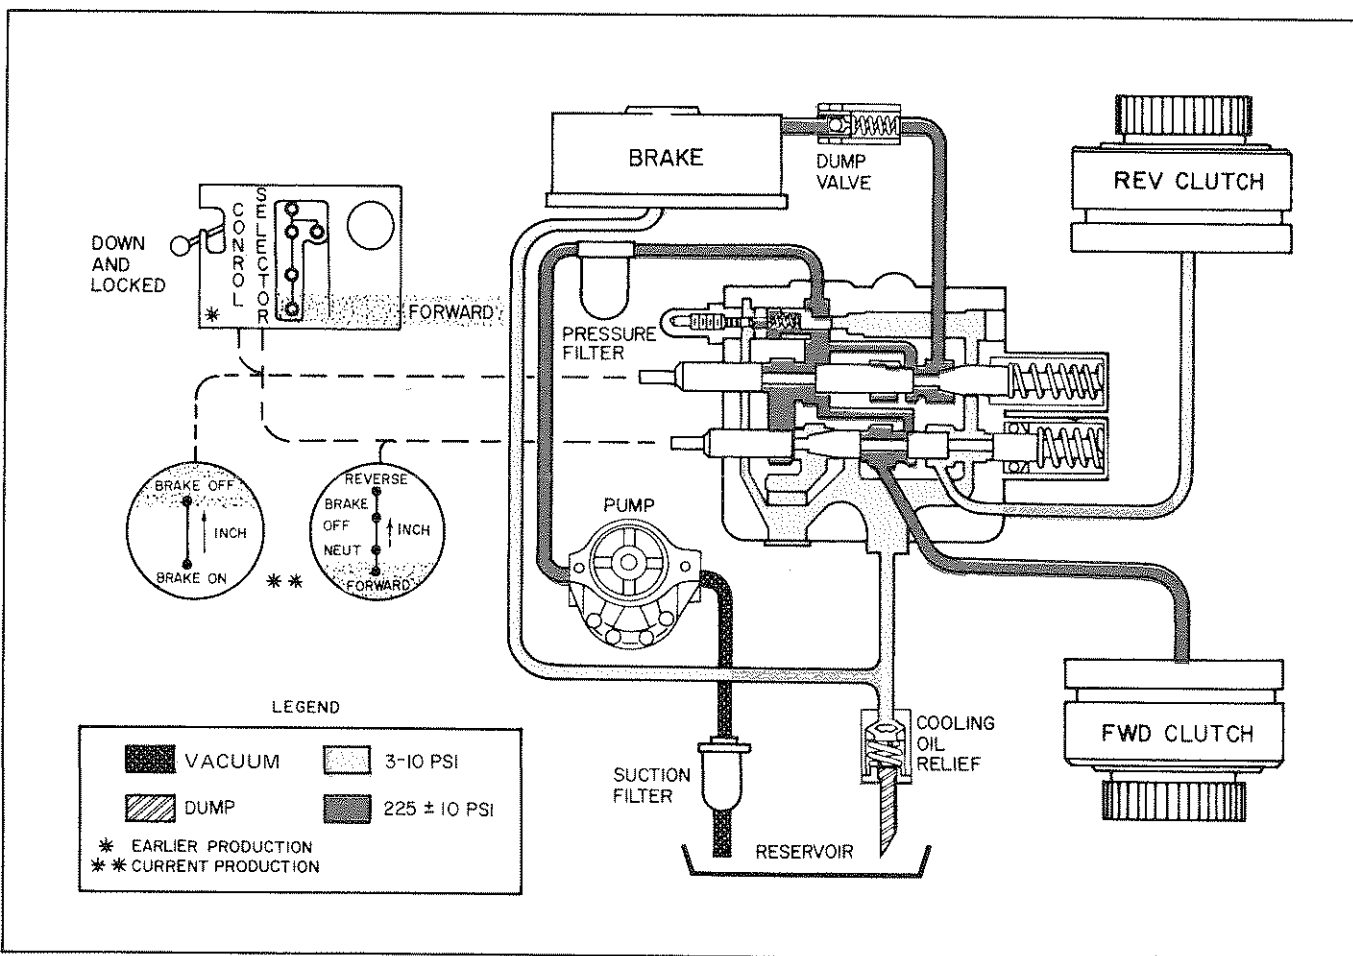

Figure 1-18. Flow Diagram, Forward, Normal Control
1.40. HYDRAULIC SYSTEM, FORWARD, NORMAL OPERATION. (See Figure 1-18.) On earlier production Handling Gear, the system is placed in FORWARD, Normal Control by: (1) Moving the Control Lever down and locking it in place and (2) shifting the Selector Lever to the Forward position. On current production Handling Gear this is accomplished by: (1) Locking the Inching Lever to the Brake-Off position and (2) shifting the Selector Lever to the Neutral position. When the Control Lever is locked in the down position or the Inching Lever is locked to the Brake-Off position, the inching spool is pulled to its extreme OUT position. With the Selector Lever in the Forward position, the selector spool is pushed to its extreme IN position. With the spools in these positions the pump draws oil from the reservoir through the suction filter and pushes it through the pressure filter to the